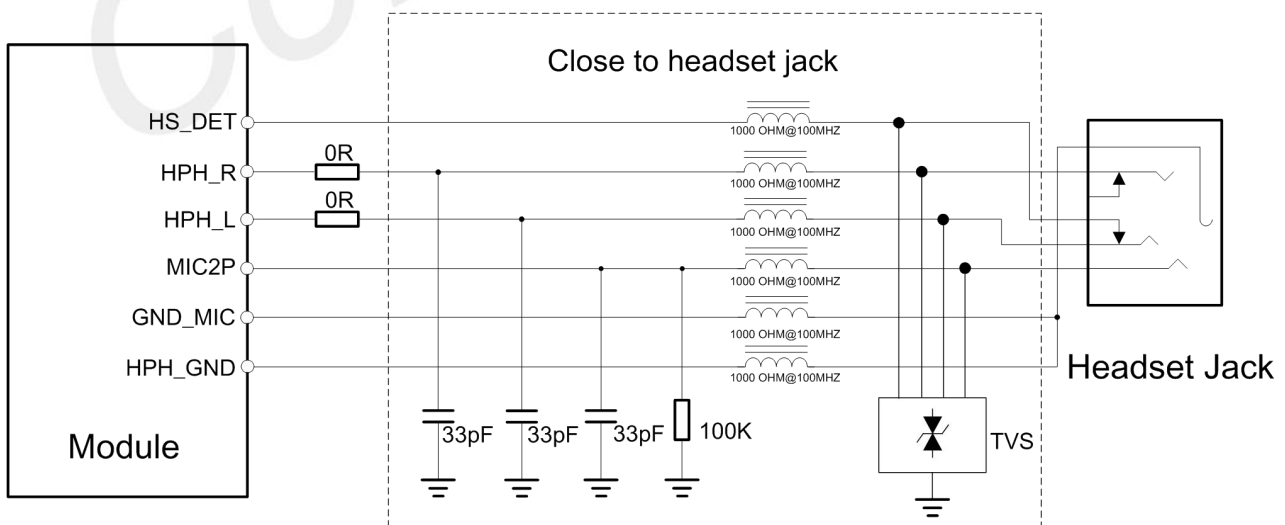

Figure 22: Headset reference circuit
A 100K $\Omega$  pull-down resistor is integrated at HPH\_L pin, which could be used for mechanical insertion or removal detection through HS\_DET pin. Figure 22 shows the reference circuit for normally-closed (NC) type headset jack.